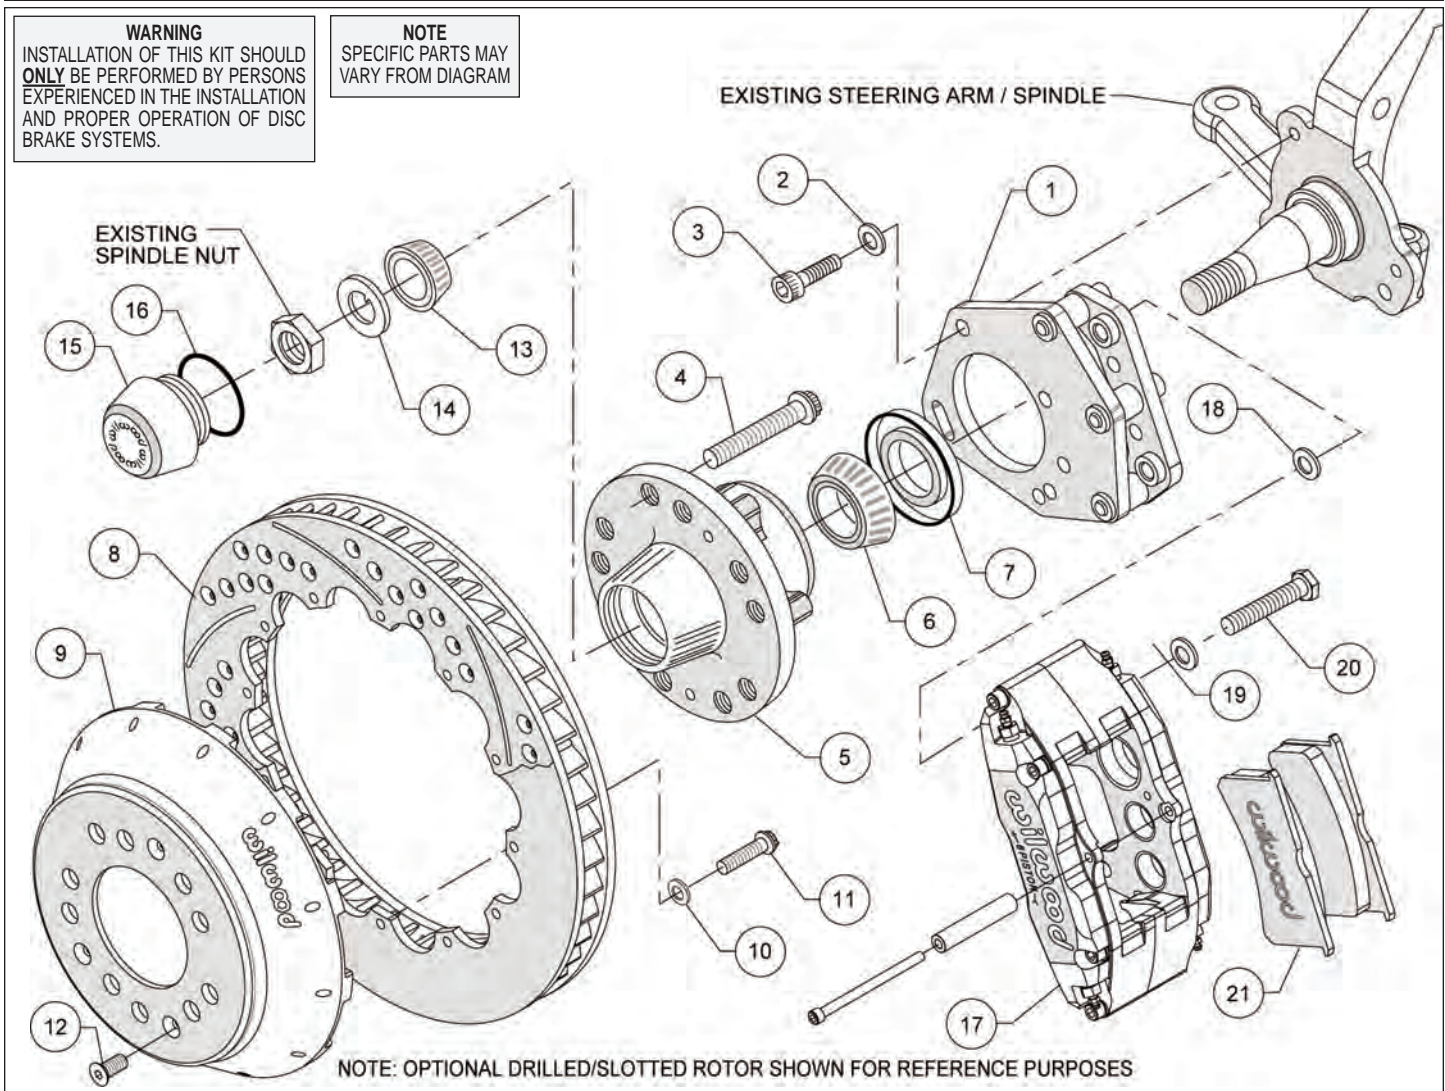
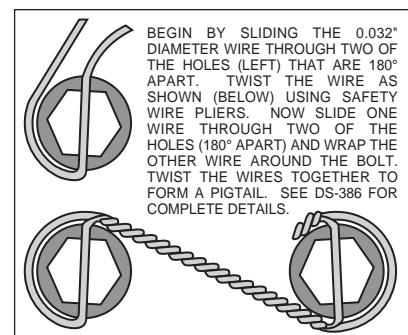

Figure 1. Typical Installation Configuration
Figure 3. Safety Wire Diagram
- Position the caliper mounting bracket (1) on the spindle with the offset plate facing towards the center of the vehicle. **NOTE:** Be sure the heads of the caliper bracket (1) insert nuts are facing outward toward the wheel. Place one washer (2) on each of the three caliper bracket bolts (3). Mount bracket to the dust plate face of the spindle and align the three 3/8-16 holes in the spindle with the corresponding holes in the bracket (1). Apply red *Loctite*® 271 to all three bolt threads (3) and install. Torque bolts (3) to 50 ft-lb.
- Install wheel studs (4) into the hub (5). Torque to 77 ft-lb. **NOTE:** There are two lug patterns of five holes each in the hub (5 x 4.50 and 5 x 4.75). Make sure of the correct hole pattern for the wheel application before installing the studs into the hub.
- Pack the large inner bearing cone (6) with high temperature disc brake bearing grease (available from your local auto parts store) and install into the backside of the hub (5).
- Install the grease seal (7) into the backside of the hub (5).
- Pack the small outer bearing cone (13) with high temperature disc brake bearing grease and install into front side of the hub (5). Slide the hub assembly (5, 6, 7 and 13) onto the spindle. Secure using spindle washer (14), stock adjusting nut, and nut locking device. Adjust wheel bearing pre-load per Original Equipment Manufacturer (OEM) specifications.
- Install the o-ring (16) and the dust cap (15) into the hub (5). **NOTE:** O-ring (16) friction will not allow cap (15) to unscrew on its own.
- With the larger I.D. side of the rotor (8) facing away from the hat (9), bolt rotor (8) to hat (9) through the backside of the rotor using washers (10) and bolts (11). Using an alternating sequence, apply red *Loctite*® 271 to the threads and torque bolts to 155 in-lb. For an added measure of security, the bolts may be safety wired using standard 0.032 inch diameter stainless steel safety wire as shown in Figure 3. Please refer to Wilwood's data sheet DS-386 (available at [www.wilwood.com/Pdf/DataSheets/ds386.pdf](http://www.wilwood.com/Pdf/DataSheets/ds386.pdf)) for complete safety wire installation instructions.
- Slide the rotor/hat assembly over the studs (4) in the hub (5) taking care to align the small countersunk holes in the hat (9) with the small threaded holes in the hub (5). Install three flat head socket head screws (12) through the small holes in the hat (9) and torque to 85 in-lb.
- **NOTE:** Please reference the caution statement at the beginning of the assembly instructions. This kit contains distinct right and left hand calipers that must be mounted in a specific direction, as described below. Mount the caliper (17) onto the caliper mounting bracket (1) using bolts (20) and washers (19), as shown in Figure 1. Initially place one .030" thick shim (18) on each bolt between the caliper and the bracket. Ensure that the caliper is mounted so the largest pistons are at the rotor exit end of the caliper, in relation to the direction of rotor rotation. Temporarily tighten the mounting bolts and view the rotor (8) through the top opening of the caliper. The rotor should be centered in the caliper. If not, adjust by adding or subtracting shims between the bracket and the caliper. Always use the same amount of shims on each of the two mounting bolts. **NOTE:** The end of each bolt must be flush with or slightly protruding from the head of the clinch nut. If necessary place spare shims between washer (19) and caliper mounting ear to achieve the proper clinch nut engagement. Once the caliper alignment and clinch nut engagement are correct, remove the bolts one at a time, apply red *Loctite*® 271 to bolt threads, and torque to 60 ft-lb.
- Remove the caliper bridge spacer and bolt, then install the disc brake pads (21), then reinstall the caliper bridge spacer and bolt.